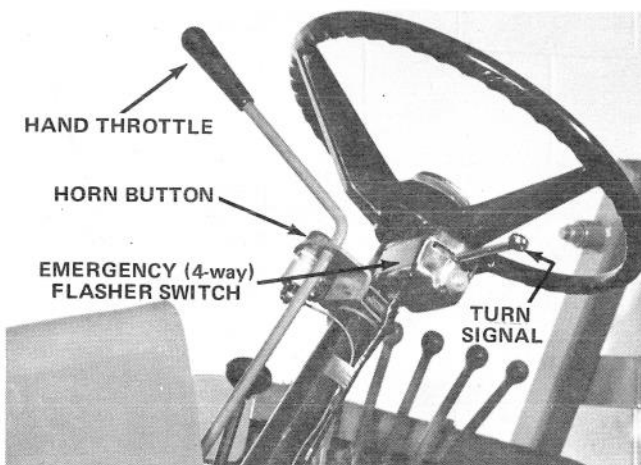

Figure 38
HAND THROTTLE – OPTIONAL KIT (Gasoline) (Fig. 38)
C. Turn Signal Assembly (Fig. 38).
D. Emergency Flasher Control (Fig. 38).